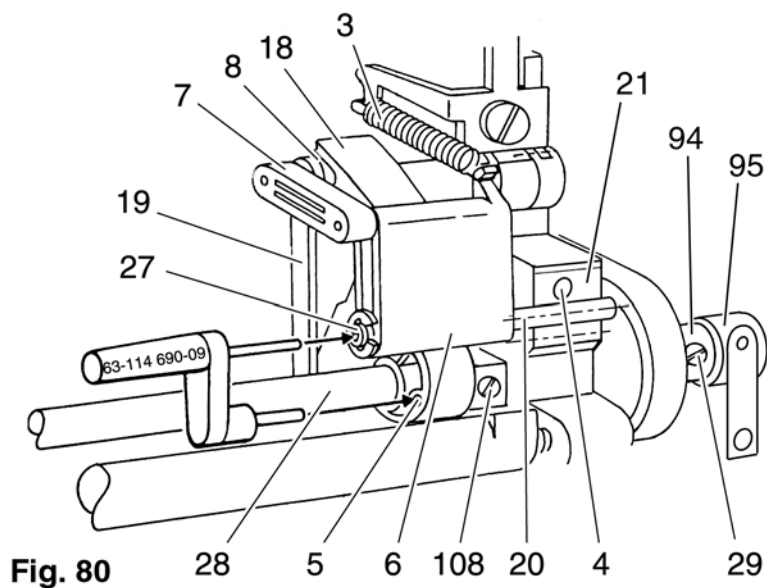

Fig. 80
- Disconnect spring 3 (fig. 80).
- Turn hook driving shaft 28 in the normal direction until the pin gauge can be inserted in the hole of feed eccentric 5 and pins 27 (fig. 80).